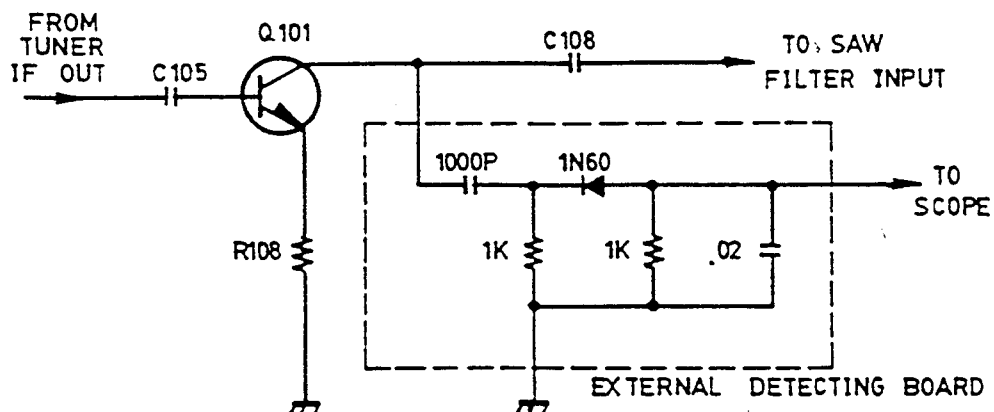

Fig. 9
2. Connector the external detecting circuit bewteen the syncoscilloscope input and TP 101 (Q101 — Collector). (See Fig. 9.).